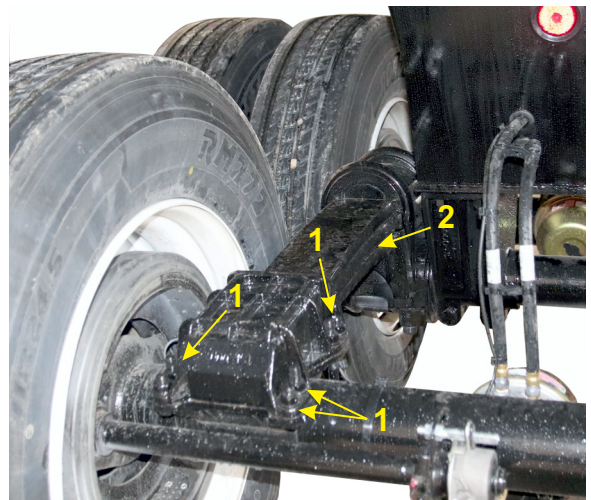

Figure 4-14 – Leaf Spring Assembly
- b. Shifted or broken spring leaves (2, **Figure 4-14**).
- d. Check the leaf spring U-bolts to make sure the U-bolt nuts (1, **Figure 4-14**) are torqued properly.